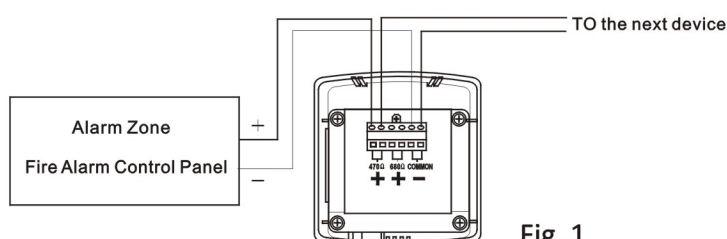

Fig. 1
2. Connect cable to manual call point body shown in Fig. 1.